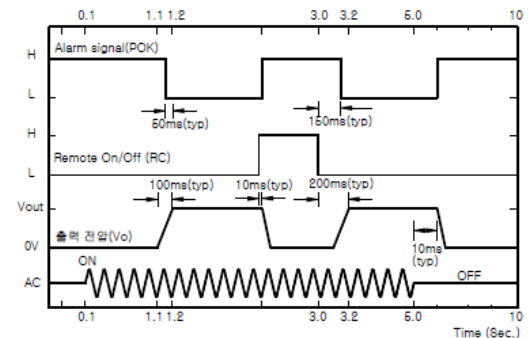

Fig.5 ON/OFF Time Chart of Output voltage
- o ON/OFF time characteristic of output voltage is as shown Fig.5